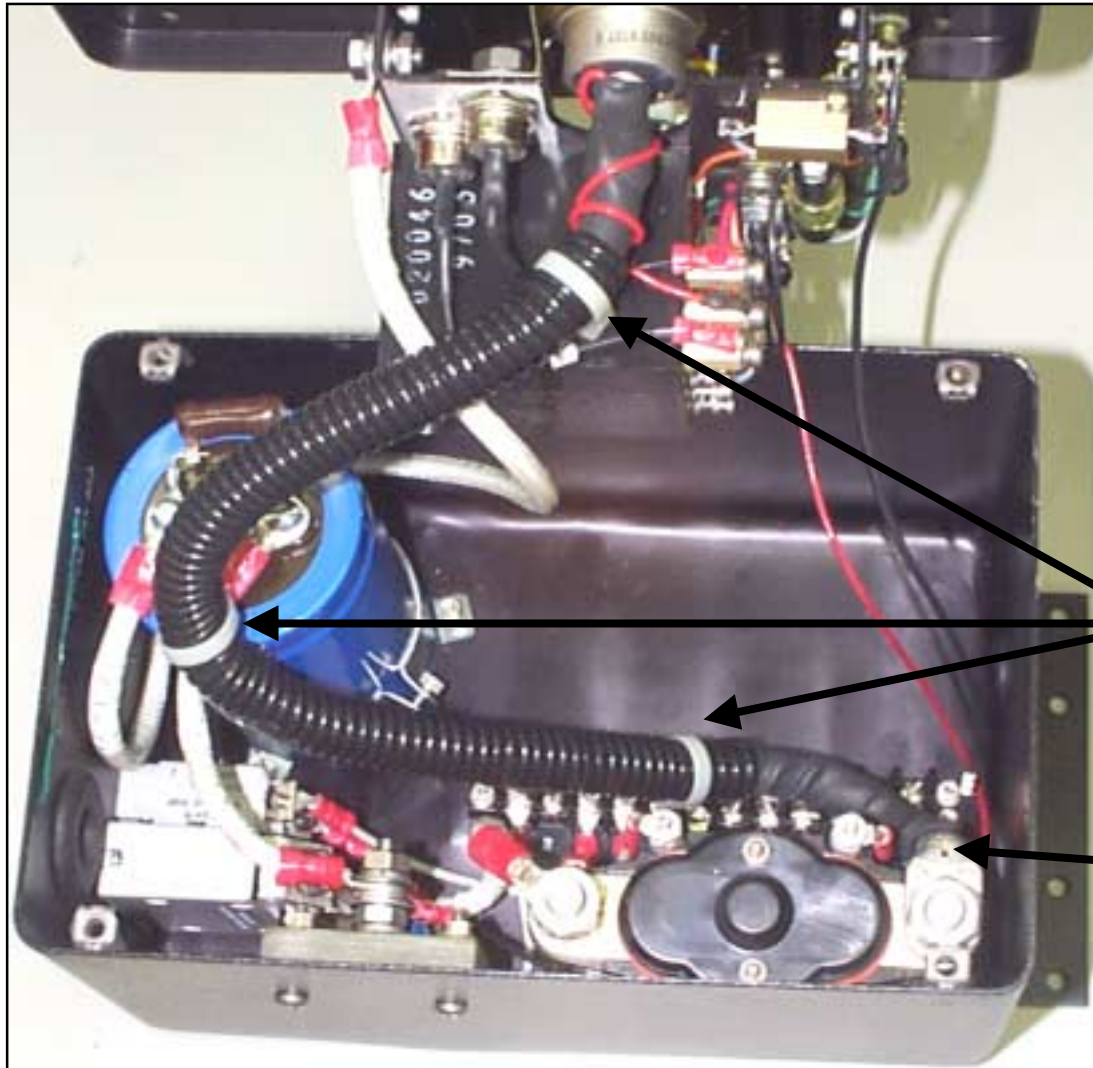

Figure 5
8. As shown in Figure 5, install one cable tie approximately ¾" (19 mm) from each end of the ½" diameter tubing. Install one more cable tie approximately in the middle of the tubing. Pull the cable ties tight and snip off the ends using a cable tie installation tool or pliers and a diagonal wire cutter. If the 1" tubing is used, it will be centered over the bolted joint and held in place with three cable ties.